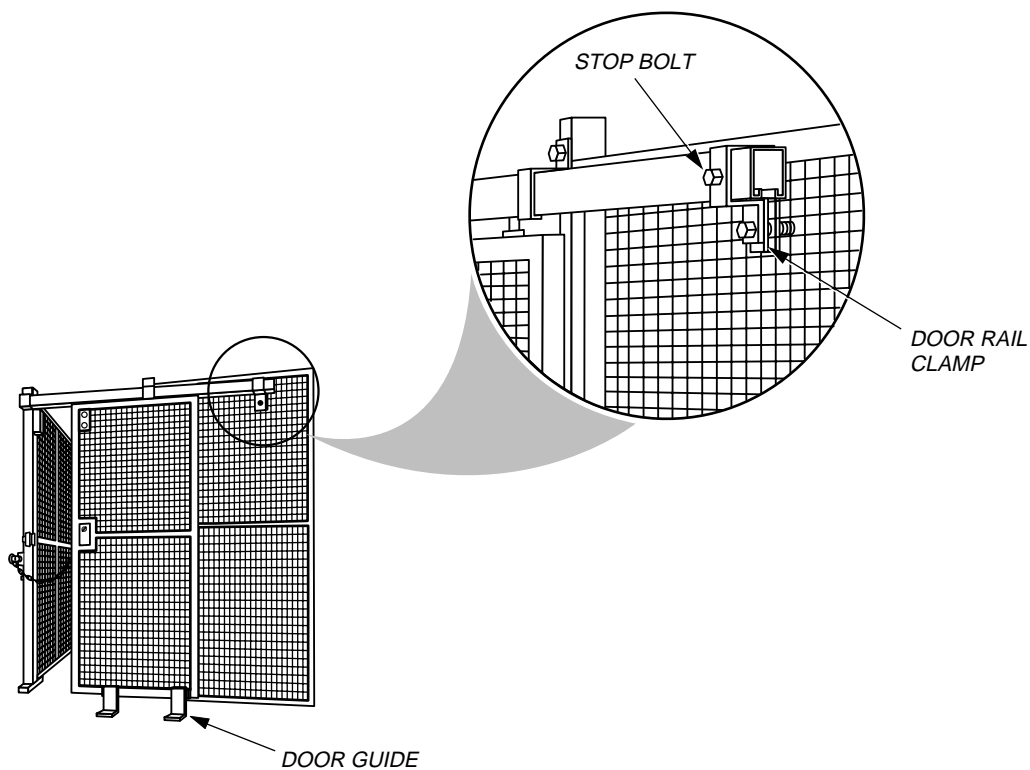

Figure 4-14 Installing Final Door Rail Clamp
12. Install top section of left wall by bolting it to bottom section and both posts (see Figure 4-14).